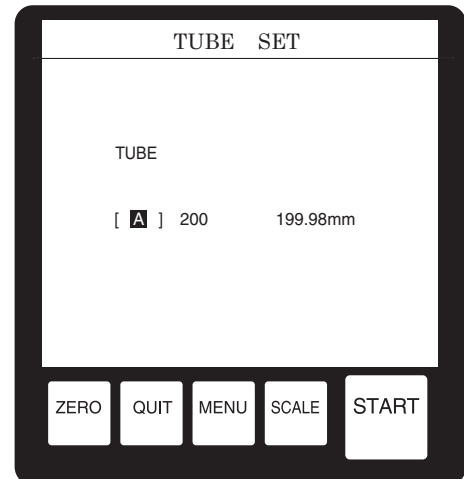

Fig.10-4
- c) The screen shown in Fig.10-4 will be displayed on the display panel.